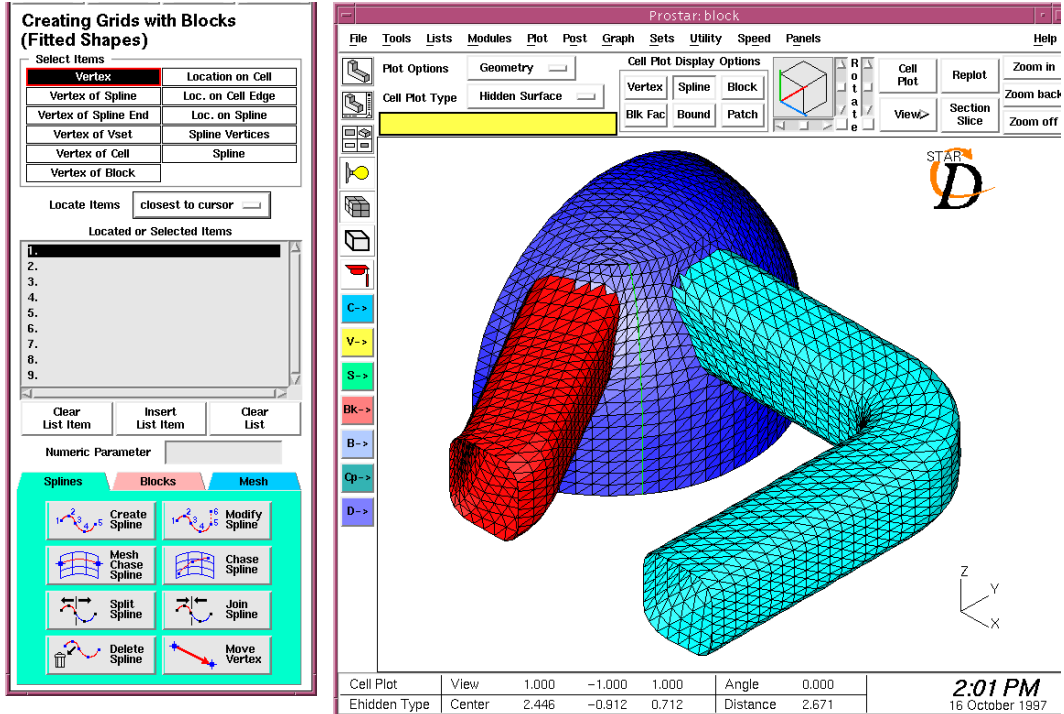

Figure 3-56 Spline created
- When satisfied with the vertex selection, click the **Done** button to create and display the current spline (see Figure 3-56)